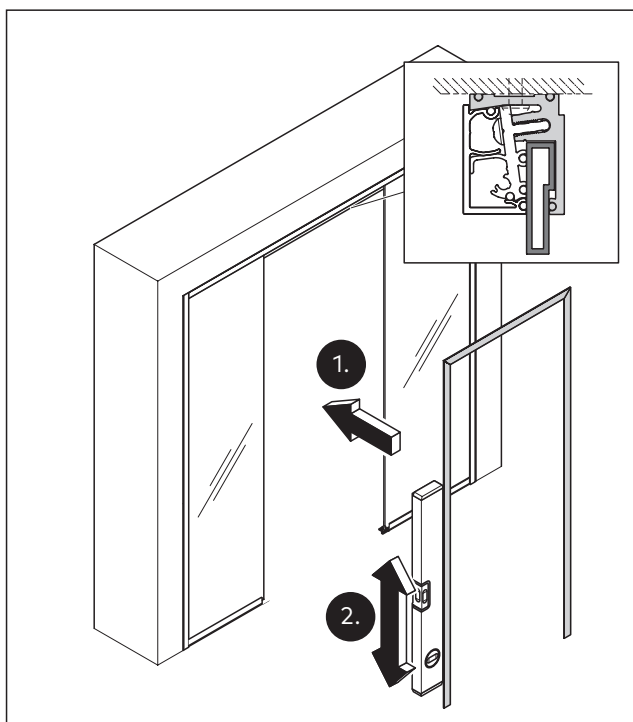

Fig. 31 Set the base profile for the door frame from the opposite side to the hinge into the passage opening
- Place the base profile for the door frame from the opposite side to the hinge into the passage opening (Fig. 31).